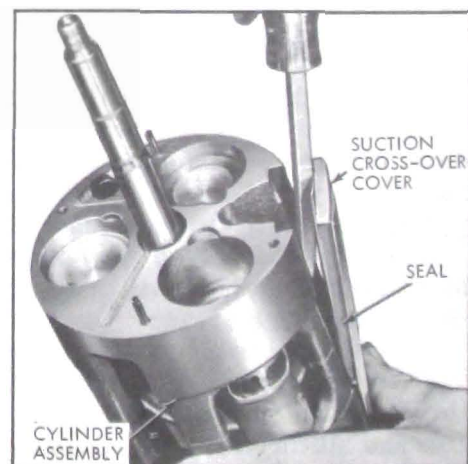

Figure 11-67—Removing Suction Crossover Cover
1. Remove suction crossover cover as shown in Figure 11-67 and discard seal on cover.